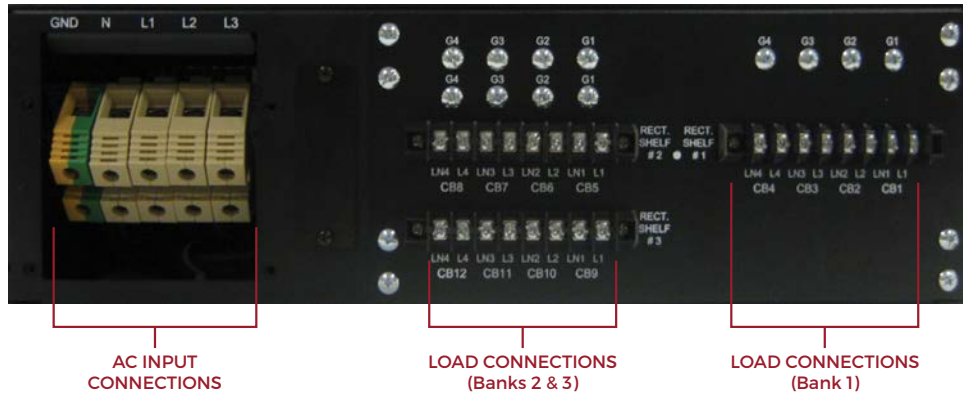

Figure 4. Back Panel View
9.1 Back View. Figure 4 shows the back of of the PDUAC3U. Inputs are at the left hand end. The outputs are to the right of this and consist of three barrier strips with associated ground screws. There are sufficient connections for connecting to a total of 3 rectifier shelves, each with 4 separate AC inputs.
9.3 Output Connections. Output connections are shown in Figure 4. There are 3 sets of barrier strip terminals. The connections are numbered to correspond with the numbers of the front panel breakers. Each barrier strip is intended for making output connections to a single rectifier shelf. Above the barrier strips are separate screws which are used to make the ground connections.